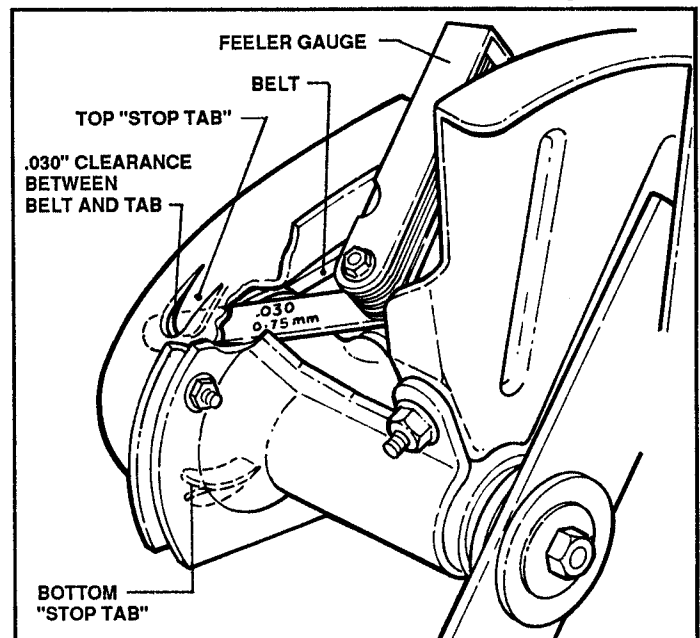

FIGURE 12
- Engage blade and, using feeler gauge, check clearance between belt and "STOP TABS". Clearance should be .030". See Figure 12.